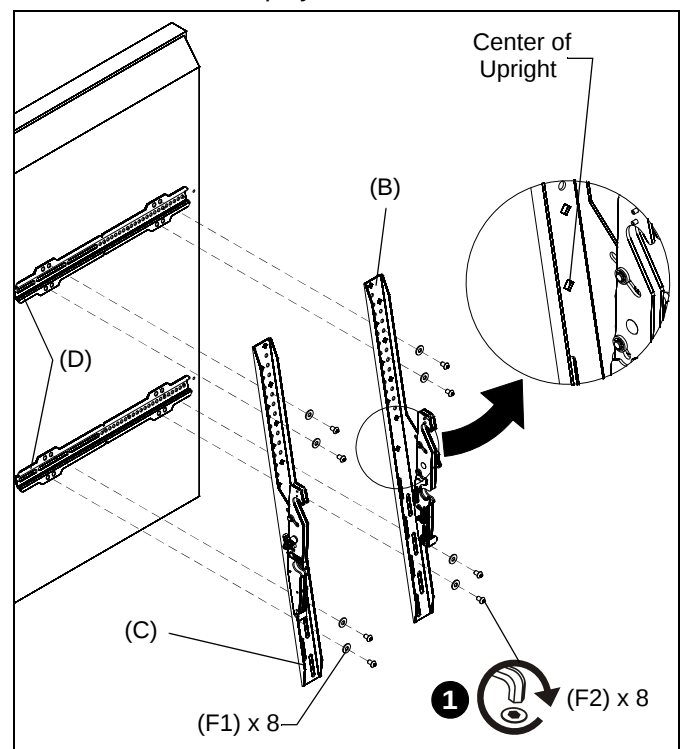

Figure 6
1. Vertically align the center of the uprights (B and C) with center of screen. (See Figure 6)